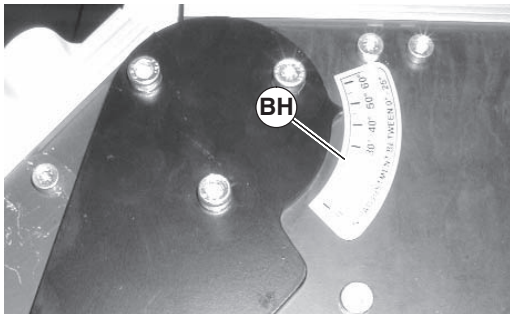

Figure 49
4. Move conveyor to desired angle as indicated by angle label (Figure 49, item BH).